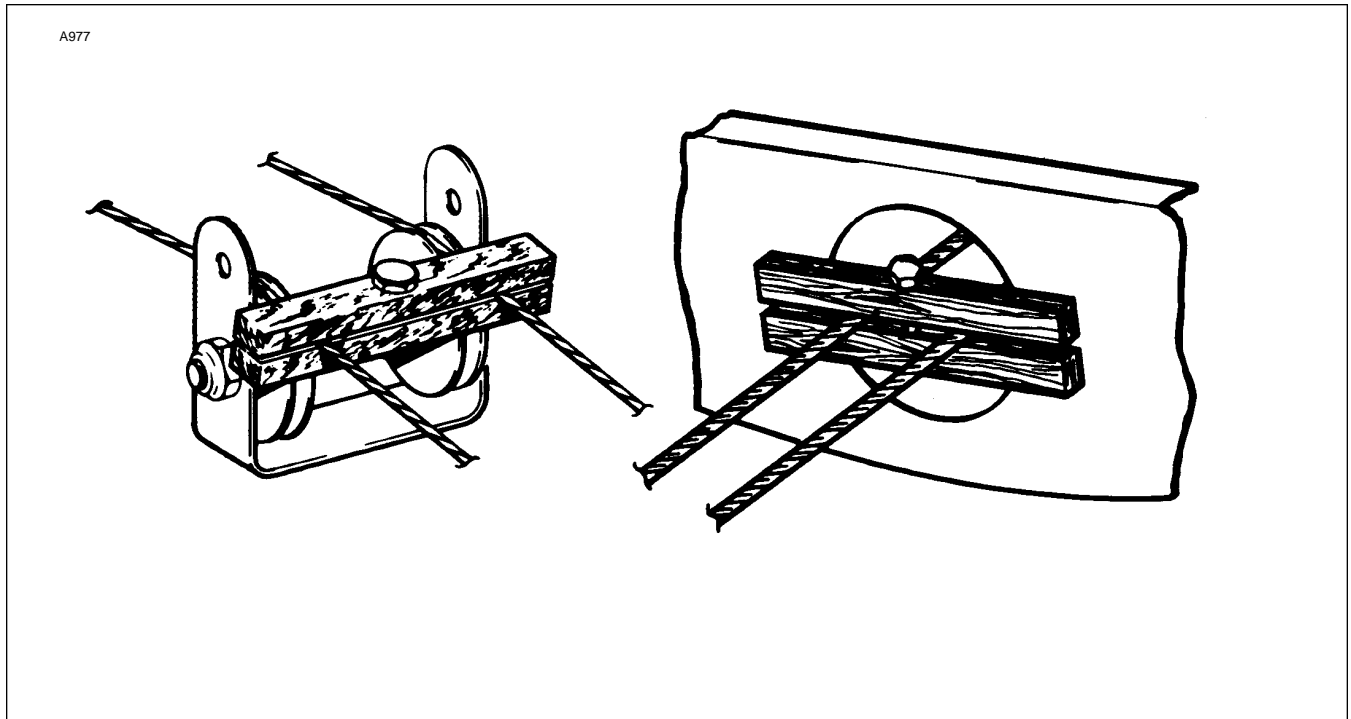

Figure 5-8. Methods of Securing Trim Cables
5-24. REMOVAL OF RUDDER AND STEERING PEDAL ASSEMBLY. (Refer to Figure 5-8.)
5-25. INSTALLATION OF RUDDER AND STEERING PEDAL ASSEMBLY. (Refer to Figure 5-8.)
- a. Assemble the torque tube assembly (1, 2, 3 and 4) as shown in Figure 5-8. Do not at this time install the two bolts (25 and 26) through the center of the tube assembly.
- b. Place the upper support blocks (7) on the ends of the torque tube assembly. Note that a washer (9) is required on each end of the tube.
- e. Position the torque tube support bracket (35) on the floor tunnel and secure with bolts.
- f. Position the vee braces (29) on the torque tube; install the strap bracket (28) around the torque tube and brace and secure with bolts, washers and nuts (27).
- g. Connect the ends of the brake cylinder rods (11) and clevis rods (15) to the idler arms (10) and secure with clevis and cotter pins (13).
- h. Connect the steering rods (21) to the rudder pedals (32 and 33) and secure with bolts and nuts (24). Check steering rod adjustment per Alignment of Nose Gear, Section VII .
- j. Connect the ends of the rudder control cables (19) to the arms provided on the torque tube and secure with bolts, washers, nuts and cotter pins (20). Allow the cable ends to rotate freely.
- k. Swing the tee bar into place and secure with attachment bolts, washers and nuts (15) with the bolts inserted in through each side of the floor panel.